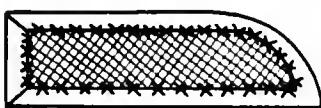

Fig. 131C. Catch-stitched interfacing.
2. The interfacing may be cut without seams except at the bottom and the wool seam allowance folded over it and catch-stitched (Fig. 131C). The upper pocket